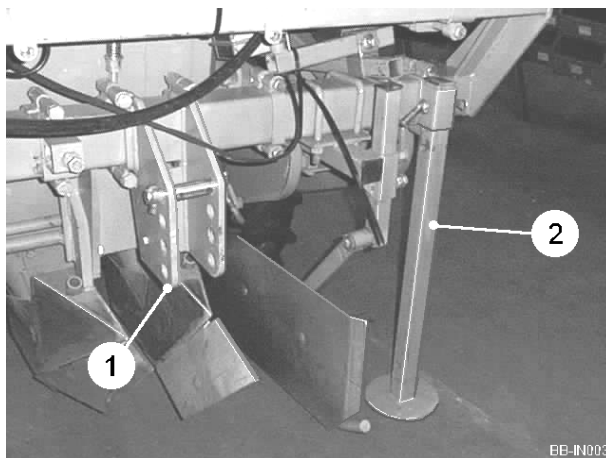

Fig 1
The planter is designed to be mounted onto the tractor 3-point linkage. The lower link arm brackets (item 1, figure 1) are adjustable to accommodate all tractors. Adjust both brackets equally either side of the headstock.
The parking stands (item 2, figure 1) must be raised before commencing work. When disconnecting the planter from the tractor always ensure the stands are lowered to support the machine.